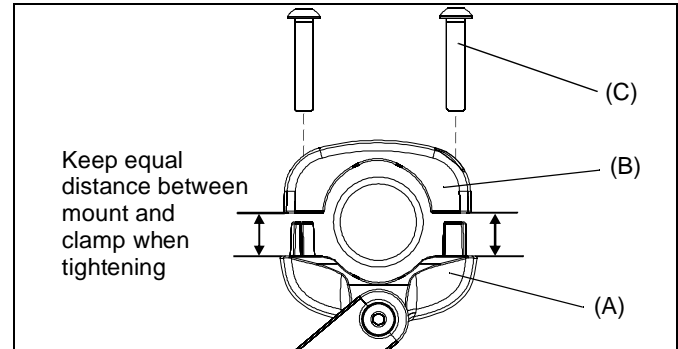

Figure 3
**NOTE:** Equally tighten screws (D) against front pole mount (A) and rear (B) pole clamps. (See Figure 3)